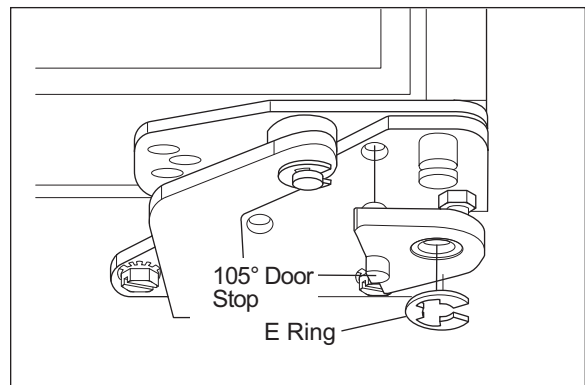

Figure 2
1. With door closed, slide door stop up onto hinge pin. The stub on the door stop fits into the hole on the cabinet hinge (See Figure 2).
2. Retain door stop by pushing E-Ring into groove at the end of the hinge pin. Make sure that the E-ring is clipped securely into the groove of the hinge pin (See Figure 2).